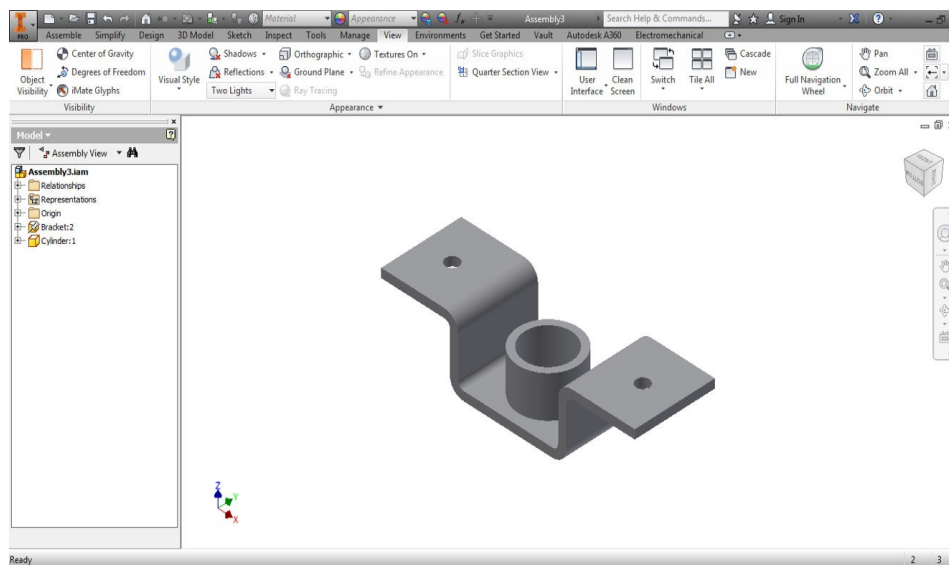

Figure 16-26 Assembly file after assembling the Bracket and the Cylinder
2. Assemble the Cylinder with the Bracket using the assembly constraints. The assembly file after assembling the components is shown in Figure 16-26.